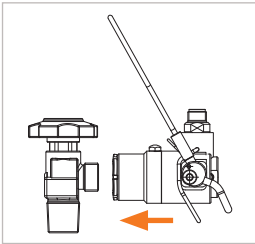

Figure 8
- ▶ Put the connector loosely and straight onto the cylinder valve until a noticeable seal contact has been established (Figure 8). Doing so will prevent any damage to the front seal caused by any sharp edges on the cylinder valve and ensure a correct connection.